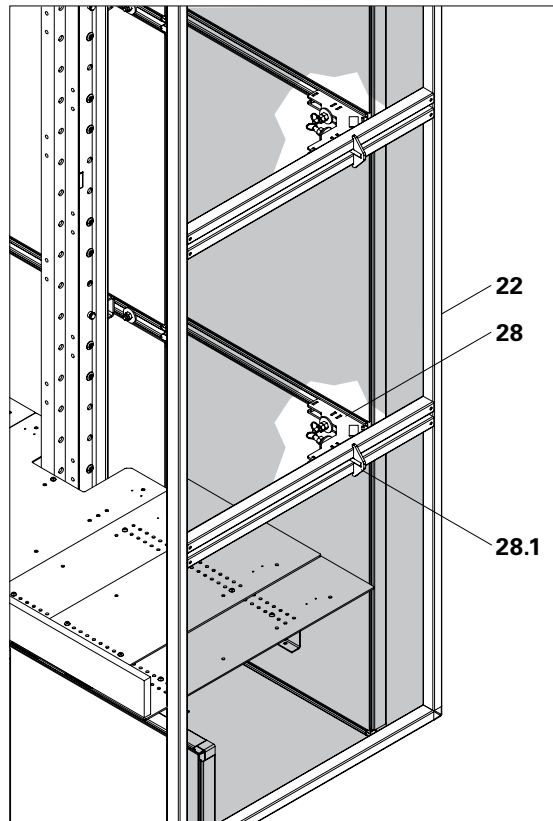

Fig. B2.21
For fixing Telescopic Screens LPS at right angles to other screen elements. Assembly of the Screen Adapter Corner LPS takes place with the Screen Anchor Plate (28.1), nuts and counter nuts on the double strut of the Telescopic Screen (22) or on the struts of two adjacent standard Screen Elements. (Fig. B2.21)